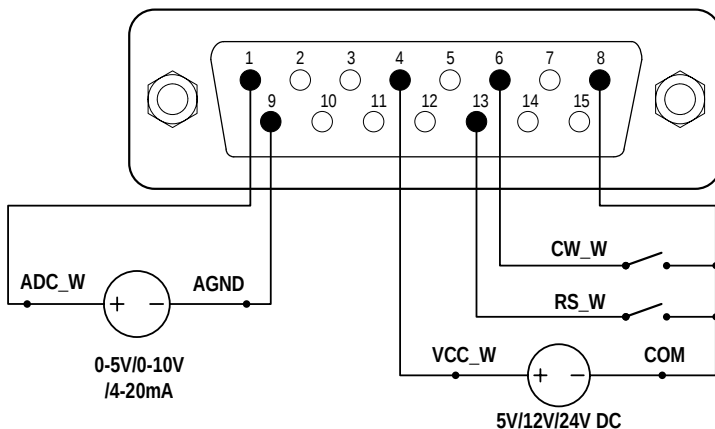
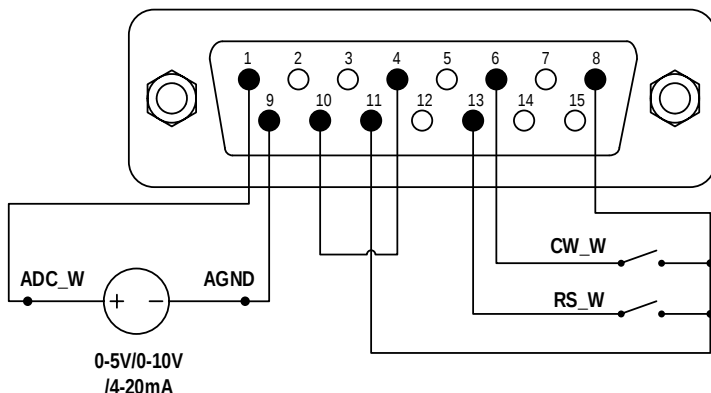

Figure 10. DB15 Wiring with an External Power Source
Figure 11. DB15 Wiring with the Internal 12VDC Power Source
- 1) Turn off the power. Wire the DB15 connector as shown in Figure 10 or Figure 11. Connect it to the DB15 port on the rear of the pump.